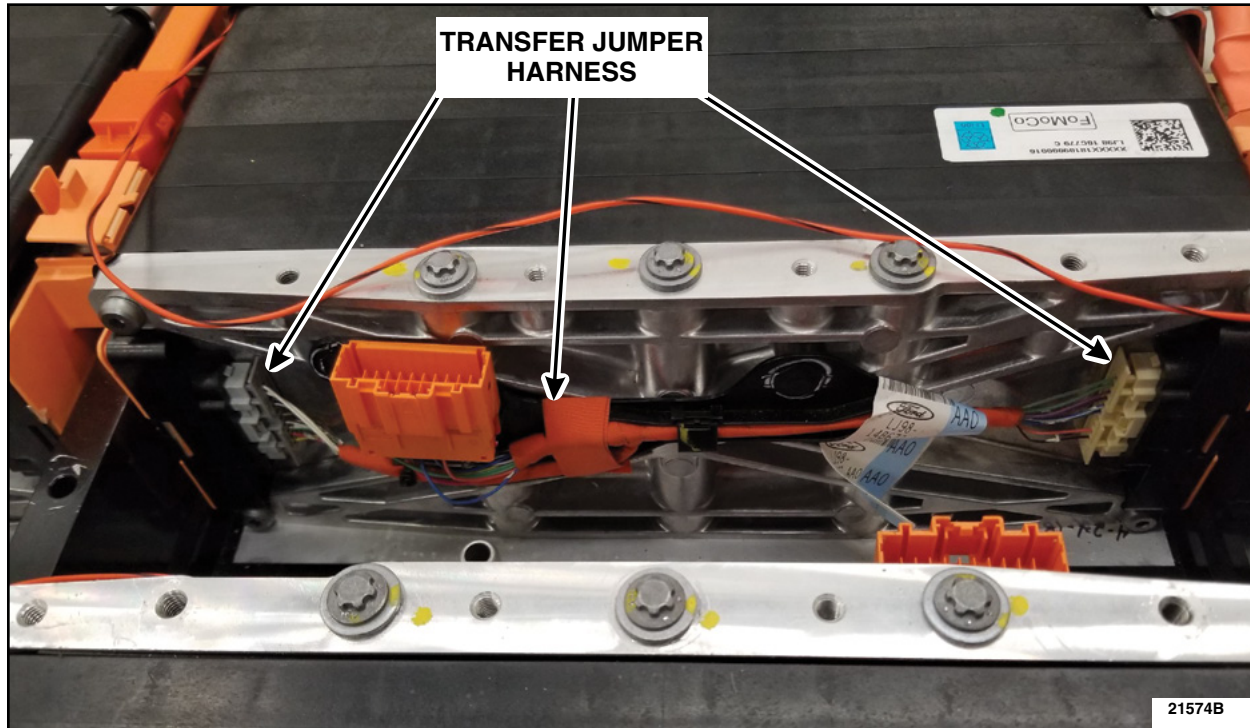

FIGURE 3
5. Transfer the jumper harness from the inboard side of the module to the *new* module. See Figure 3.